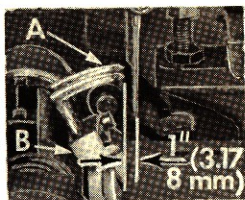
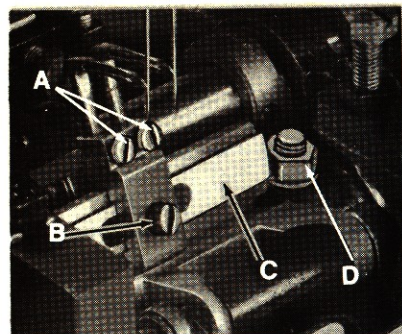

Fig. 3
Fig. 4
Insert loopers (A, Fig. 3) in looper holders (B) as far down as their shanks will permit, with their points toward the operator. The right side of the looper blades should be at right angles (90°), to the centerline of the mainshaft. Tighten screws (A, Fig. 4). Loosen screw (B) and position looper holder so that the point of the loopers when moving forward, passes the left side of the needles as close as possible without picking at the needles, .003 inch (.076 mm) clearance. Retighten screw (B). Set the looper holder frame (C) so the distance between the centerline of the needles
and the point of loopers are 1/8 inch (3.18 mm) when the loopers are at their farthest point of travel to the rear (Fig. 3). This can be accomplished by loosening the hexagon nut (D, Fig. 4) in the looper holder frame driving arm. Move the looper holder frame (C) towards the front or rear as required and retighten nut (D). Looper gauge No. 21225-1/8 can be used advantageously in making this adjustment. NOTE: The 1/8 inch (3.18 mm) looper gauge setting must be made with both loopers, in order to maintain proper needle bar alignment.